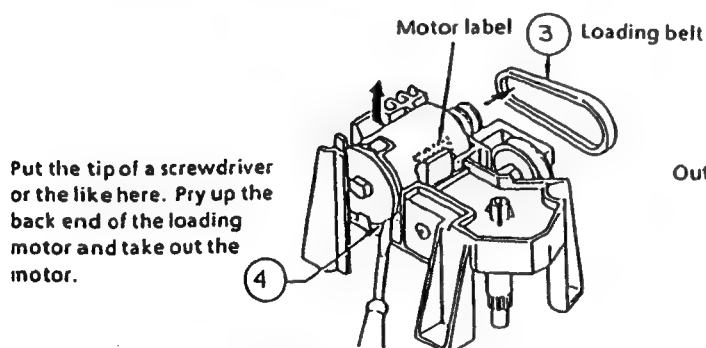

Figure 1-71.
3. Take out the loading belt ③.
4. Pry up the back end of the loading motor with a screwdriver or the like as in Figure 1-71 and take out the motor.